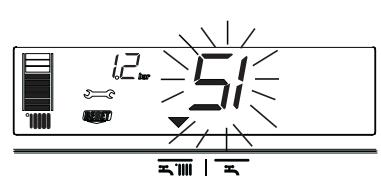

Fig. 71
3) Viewing the and symbols (fig. 71)